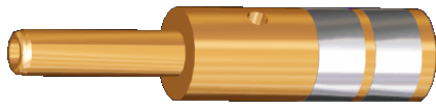

Fig. 15
The standard bushing is equipped with an 800 A copper lug and with an oil side shield, for draw lead application, so this lug must be removed from bushing and an appropriated 1200 A terminal lug (equipped with multi-spring contacts and supplied separately, see fig. 15) must be inserted into the upper end of the central tube. The oil side shield shall be removed only if is of obstacle in the bottom connection.
- Insert the appropriate inner terminal lug, suitable for bottom connection (fig. 15), into the copper tube, keeping the terminal well centered on the axis of the bushing (fig. 16). The necessary force is small (about 10 kg) because the multi-contact blades, located inside the terminal, press softly on the smooth surface of the lug.